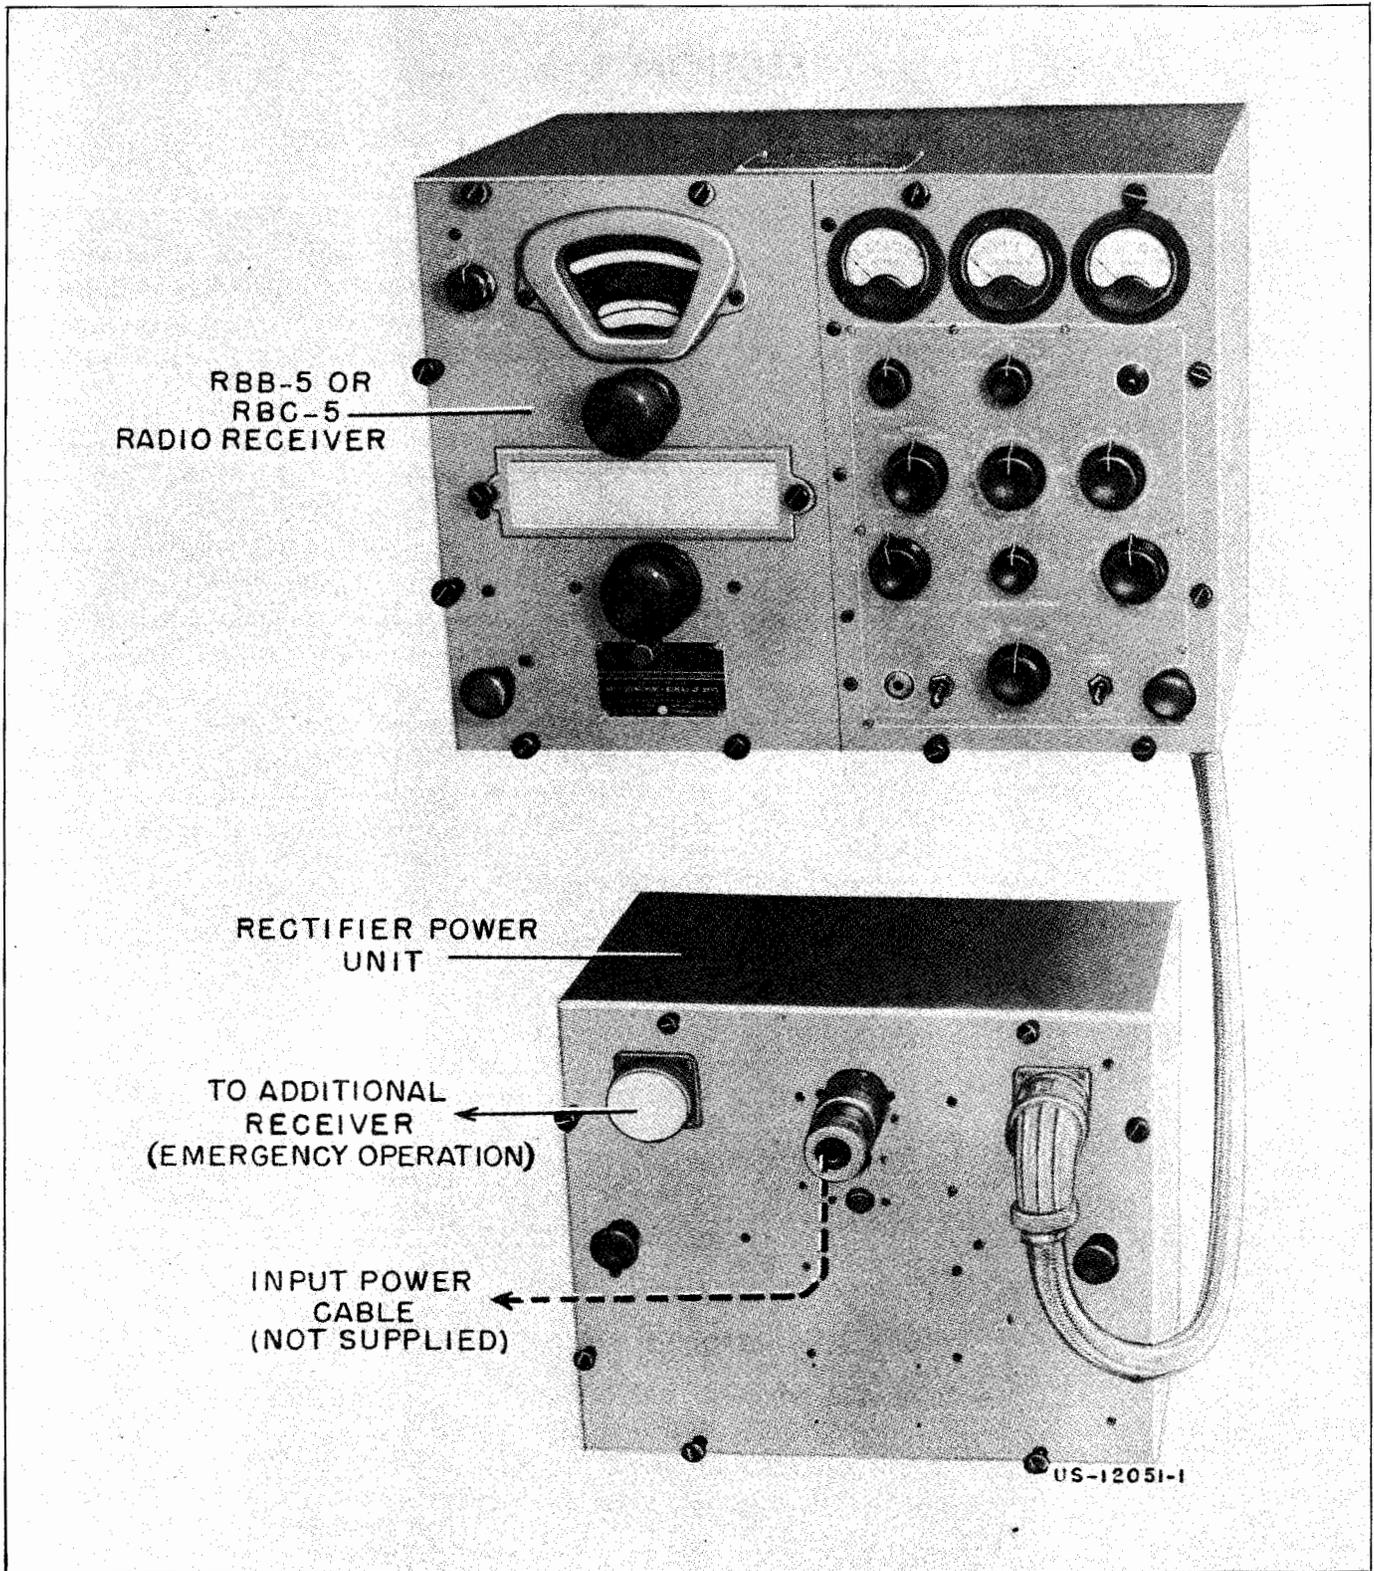

Figure 1-1. Model RBB-5 or RBC-5 Radio Receiver and Rectifier Power Unit, CRV-46147-D, CRV-46148-D, and CRV-20130-B, respectively
The Navy Models RBB-5/RBC-5 and RBB-6/RBC-6 Radio Receiving Equipments are designed for voice, mcw, and cw reception in the medium-frequency and high-frequency bands. Utilizing a four-position switch to cover the frequency range, the RBB receivers tune from 0.5 to 4 megacycles while the RBC units receive signals in the 4 to 27 megacycle band. The RBB and RBC equipments are identical in external appearance and each is supplied complete with a Navy type CRV-20130-B Rectifier Power Unit and interconnecting cable as shown in Figure 1-1. A power source of 115-125 volts, 55-65 cycles, single phase, ac is required for the Rectifier Power Unit. Although not furnished on this contract, Navy Model CV-57 URR Frequency Shift Converter or RBU/RBV Panoramic Adapter Units may be coupled to the RBB/RBC equipments through a jack mounted externally on each receiver.
c. RECTIFIER POWER UNIT.—The Rectifier Power Supply utilizes a type 5U4G tube in a full-wave rectifying circuit for supplying the RBB/RBC plate and screen voltages. Shown in Figures 1-1 and 1-8, the unit includes a type OC3 tube for regulation of the heterodyne oscillator plate and screen voltage. An input source of 110-120 volts, 55-65 cycles, single phase ac is required for the power unit. One hundred watts input is required when either an RBB or RBC receiver is powered.